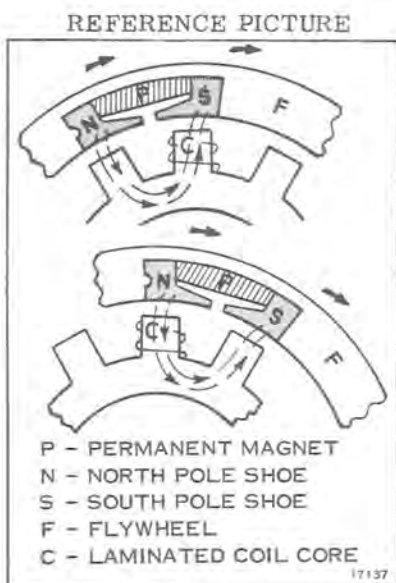

Figure 3-7
The flywheel rotates around the stator and charge coil assembly. (See Figure 3-7.) The magnets in the flywheel and the (2) charge coils generate a voltage. This voltage (AC) flows into the Power Pack. Here it is changed to DC and stored in a capacitor. At the same time the sensor rotor rotates by the sensor coils and a smaller AC voltage is generated. This smaller voltage flows into the Power Pack and causes an electronic switch in the Power Pack to turn on allowing the voltage stored in the capacitor to discharge into the primary of the ignition coils.